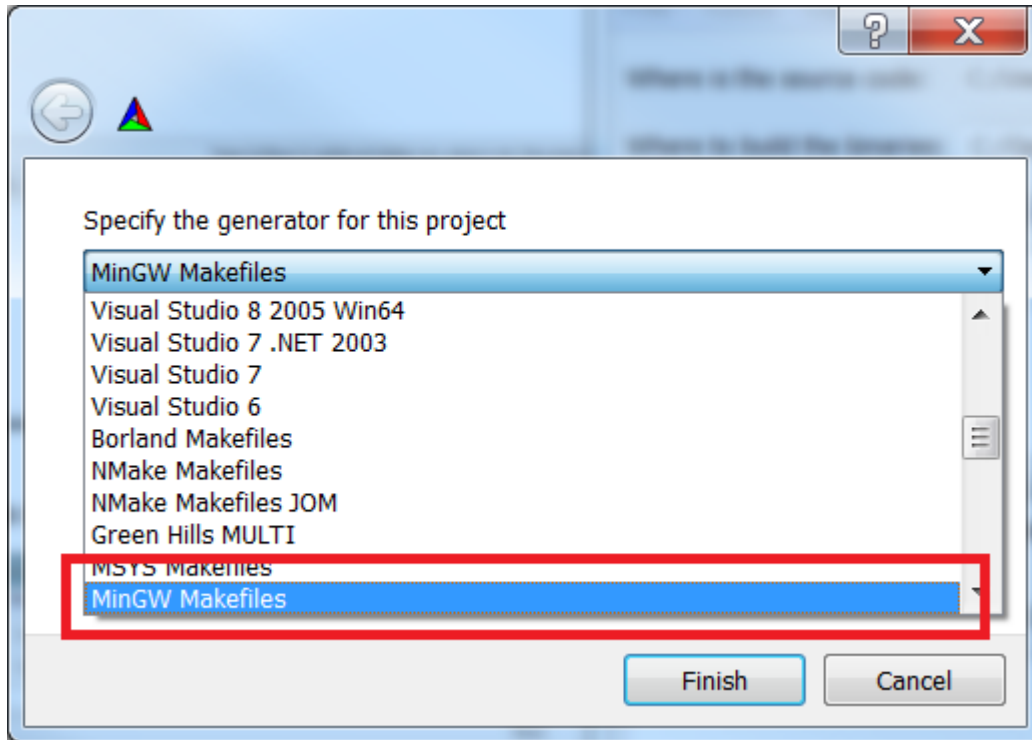

Figure 27. CMake Specify Generator
- Then click “Configure” in the CMake GUI. In the drop down, find “MinGW Makefiles” as shown in Figure 27.